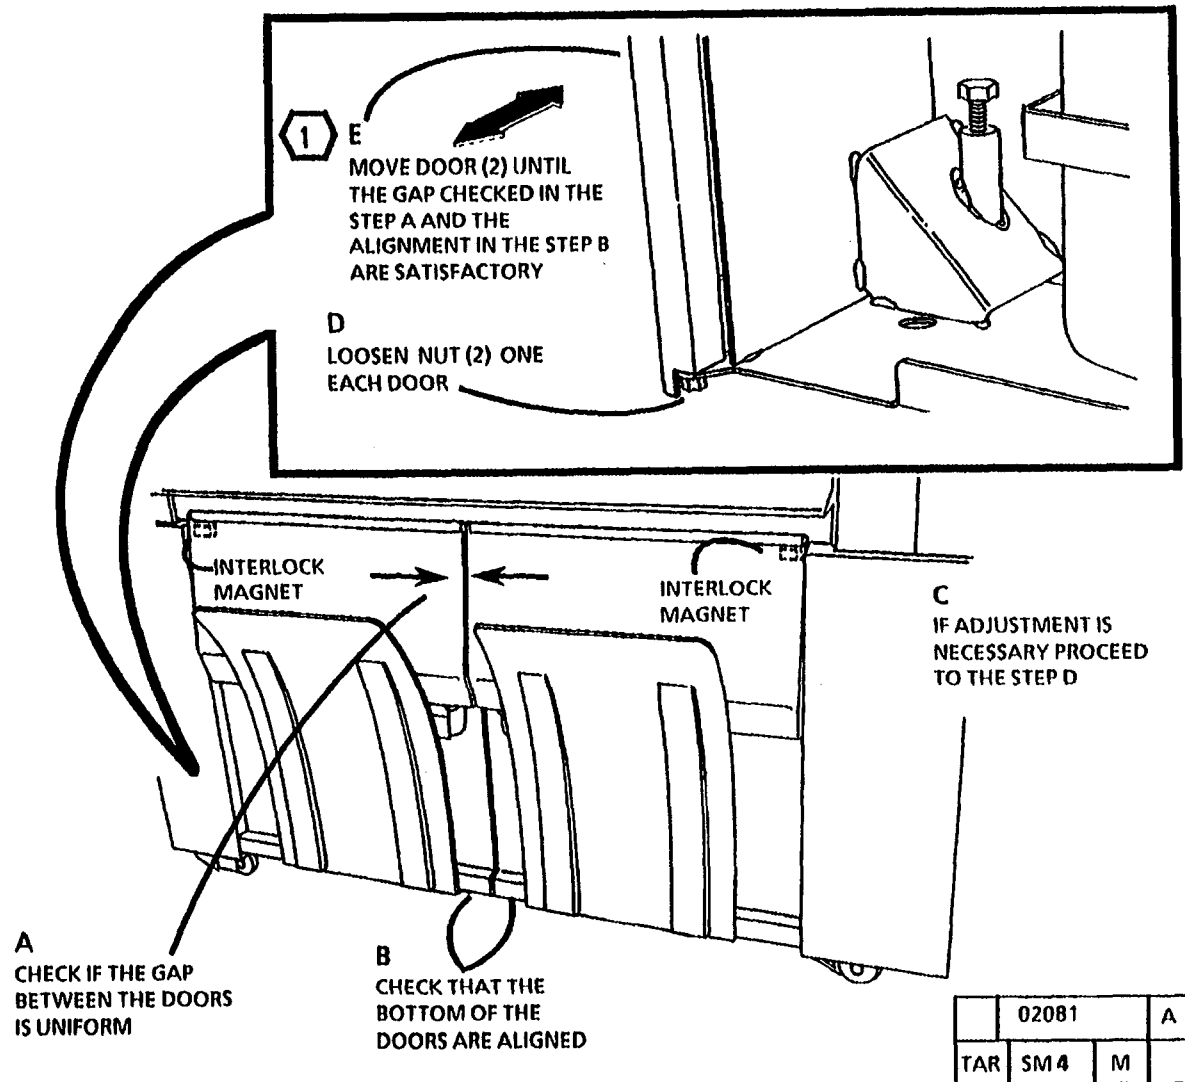

Figure 1. Check/ Adjust the Front Doors
1. (Figure 1): Check/Adjust the Front Doors.